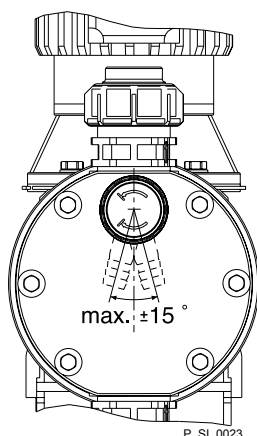

Fig. 21: Permissible alignment of the bleeder valve
- Route the overflow line with a continuous slope and moreover with the tube nozzle pointed downwards - see Fig. 21.